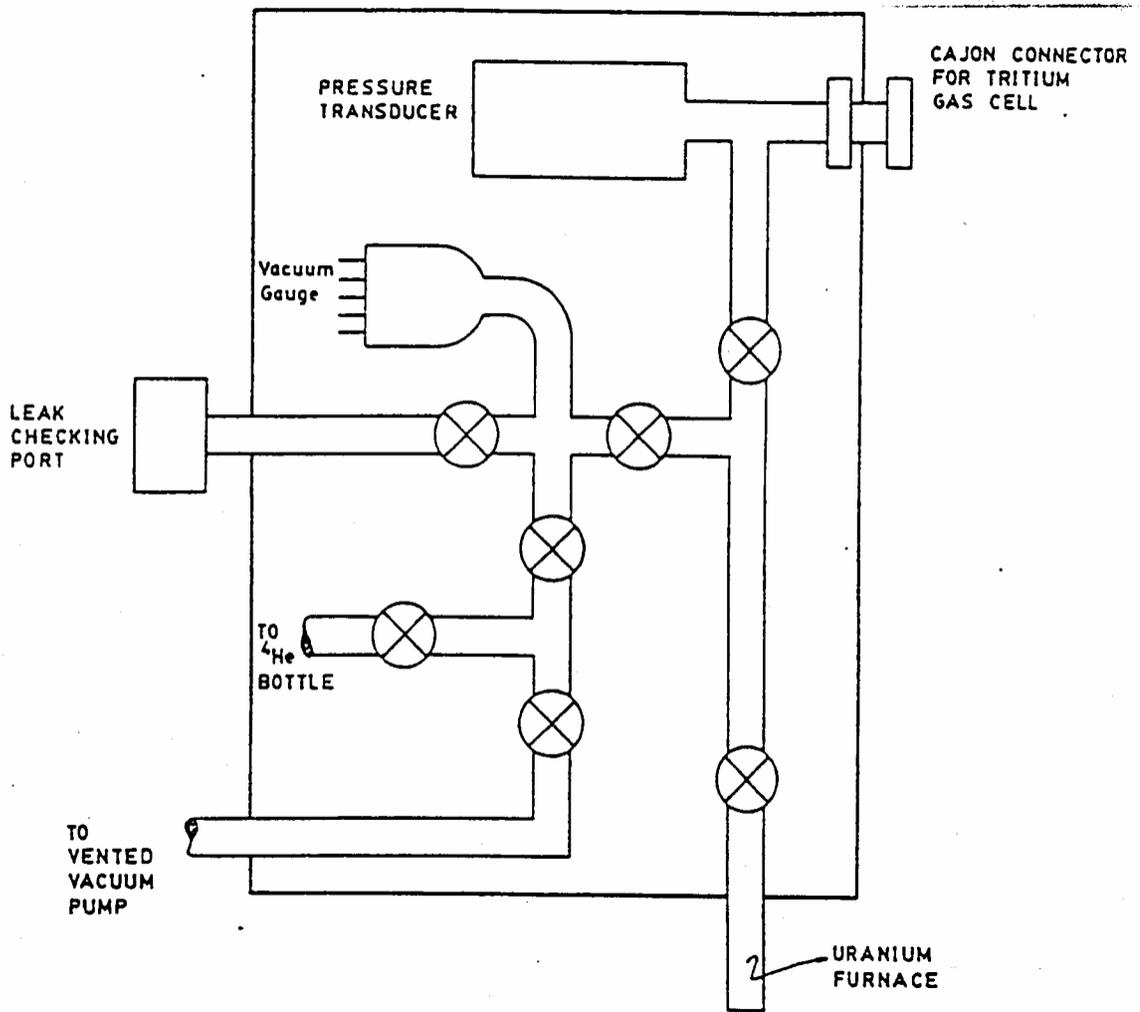

Figure 1
- 2) Attach leak checker to gas handling system at the flange indicated in Figure 1.
- 1) After the water was removed, the furnace was outgassed by pumping for 3 hours at 100° C. This was then repeated at 150° C for 3 hours and repeated again at 400° C for 1 hour. Finally, the system was now leaked chased. Note that during this process the system was connected to the gas handling system shown in Figure 1 with the exception that a TC vacuum gauge replaced the gas cell.